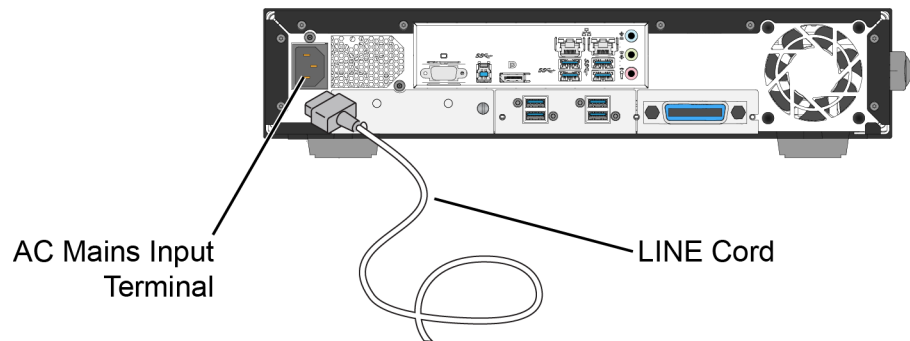

Figure 6. LINE Power Cord Connection to N1002A
1. Connect the line cord as shown in Figure 6 on page 21. The N1002A automatically adjusts for line input voltages. There is no voltage selection switch. The line cord provided is matched by Keysight to the country in which the order originates.